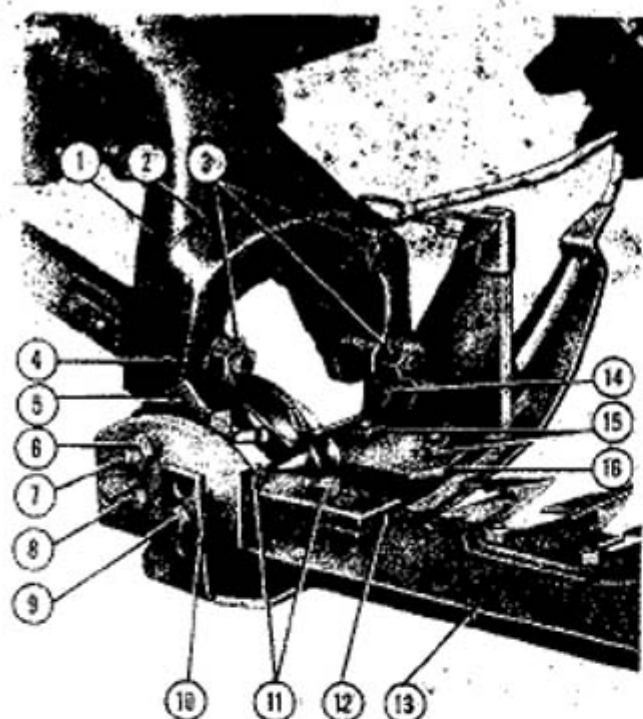

Figure 9
**Register Adjustment:** Proper knife register is an important factor in efficient mower operation. The center line of the knife sections should be approximately in line with the center line of the knife guards, when the Pitman arm is at either end of its stroke. If the knife sections are out of register, adjust them by adding or removing shims (2), Figure 9, between the yoke bracket (1) on the main frame and the cutter bar yoke (4).
**Knife Guides:** To avoid excessive slap or vertical play of the knife head, remove the nuts (11) and (15), Figure 9, from guide plates (12) and (16). Remove the shims from under each guide plate until the knife has approximately 1/64" - 1/32" vertical freedom (the knife should not bind when the cutter bar is lifted and is bending under its own weight). When replacing the rear knife guide (12), position the wear plate underneath the knife guide so the knife head has approximately 1/16" to 1/32" side play.
**Cutter Bar Tilt:** The cutter bar may be adjusted to tilt up or down 10 degrees. This adjustment is made by loosening the three nuts (3), Figure 9, and rotating the cutter bar (13) and yoke (4) on the lower frame yoke bracket (1) to the desired position. Slotted holes in the yoke bracket (1) permit the bolts to move with the cutter bar.
**Cutter Bar Lead:** The Ford Rear Attached Mower Cutter Bar is designed with a built-in lead of 1-1/2 degrees (1/4" per foot of cutter bar). To compensate for wear, a lead adjustment has been provided through an eccentric on the rear hinge bushing. To adjust, remove the bolt (8), Figure 9, loosen the lock nut (6) and the rear hinge bolt (7) which is threaded into the inner shoe. Then, rotate the eccentric flange (5) by tapping it with a hammer for the proper lead. Secure the eccentric flange (5) to the inner shoe with the locking bolt (8), lock washer, and nut as shown in Figure 9, and tighten the rear hinge bolt (7) as much as possible. Lock the hinge bolt securely with the lock nut (6).
**IMPORTANT:** Hinge bolts (7) and (14), Figure 9, should be checked frequently to be sure they do not work loose.
To adjust the inner shoe, remove the bolt (9), Figure 9. Raise or lower the sole to the desired position on the shoe (10) and replace the bolt (9). Secure with the lock washer and nut as shown.